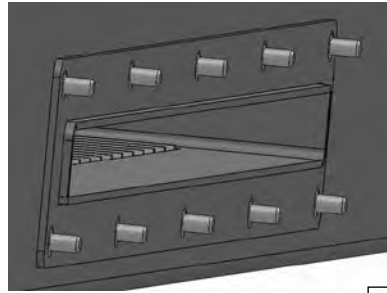

Figure 24A: Correct
1. Evenly push the filter back into the opening in the side of the conveyor until the flange is flush against the conveyor casing (Figure 24A). Gaps between the flange and conveyor indicate that the filter is not properly seated (Figure 24B). An